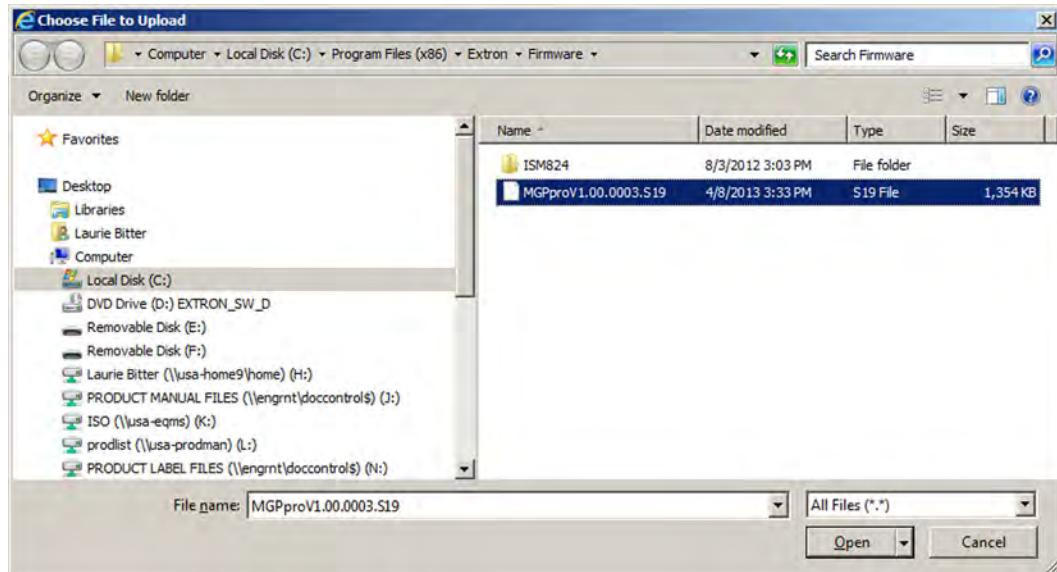

Figure 55. Choose File to Upload Window
3. Click **Browse** to open the Choose File to Upload (or Choose File) window (see figure 55) and locate the firmware file on your computer or server. The file extension must be **.S19**.